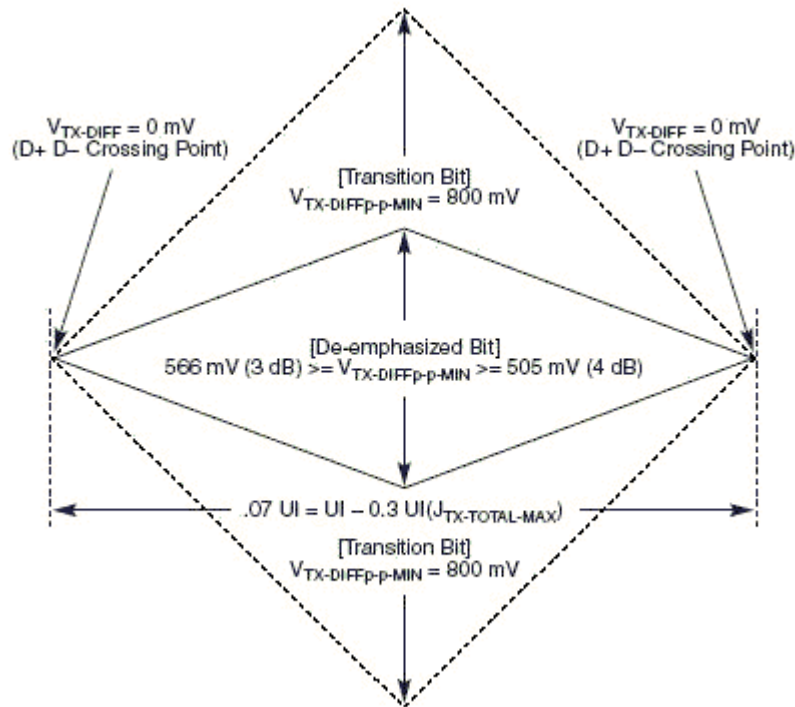
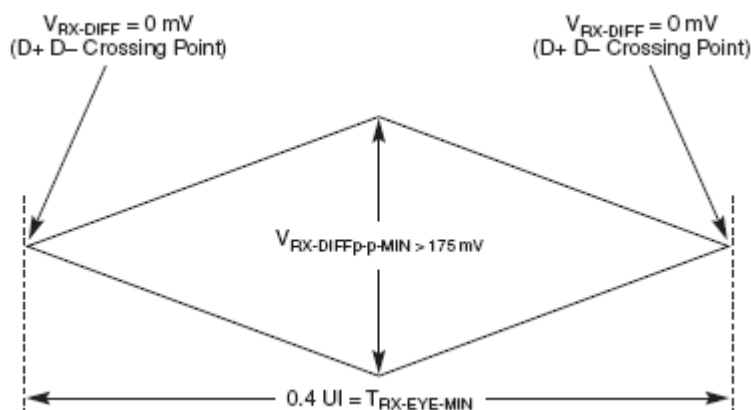
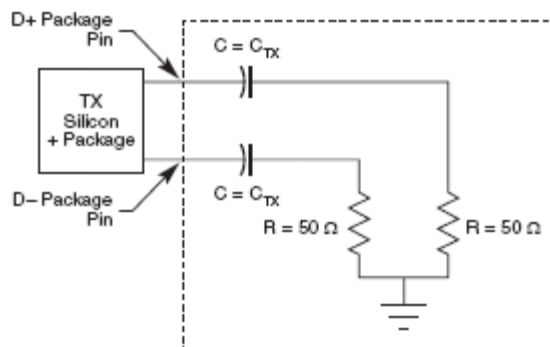

Figure 55. Minimum Transmitter Timing and Voltage Output Compliance Specifications
Figure 56. Minimum Receiver Eye Timing and Voltage Compliance Specification
Figure 57. Compliance Test/Measurement Load
2. Specified at the measurement point into a timing and voltage compliance test load as shown in Figure 57 and measured over any 250 consecutive TX UIs. (Also refer to the transmitter compliance eye diagram shown in Figure 55.)
4. The Transmitter input impedance shall result in a differential return loss greater than or equal to 12 dB and a common mode return loss greater than or equal to 6 dB over a frequency range of 50 MHz to 1.25 GHz. This input impedance requirement applies to all valid input levels. The reference impedance for return loss measurements is 50 ohms to ground for both the D+ and D- line (that is, as measured by a Vector Network Analyzer with 50 ohm probes—see Figure 57). Note that the series capacitors C_{TX} is optional for the return loss measurement.
5. Measured between 20-80% at transmitter package pins into a test load as shown in Figure 57 for both $V_{\text{TX-D+}}$ and $V_{\text{TX-D-}}$.
The TX eye diagram in Figure 55 is specified using the passive compliance/test measurement load (see Figure 57) in place of any real PCI Express interconnect + RX component.
2. Specified at the measurement point and measured over any 250 consecutive UIs. The test load in Figure 57 should be used as the RX device when taking measurements (also refer to the Receiver compliance eye diagram shown in Figure 56). If the clocks to the RX and TX are not derived from the same reference clock, the TX UI recovered from 3500 consecutive UI must be used as a reference for the eye diagram.
4. The Receiver input impedance shall result in a differential return loss greater than or equal to 15 dB with the D+ line biased to 300 mV and the D- line biased to -300 mV and a common mode return loss greater than or equal to 6 dB (no bias required) over a frequency range of 50 MHz to 1.25 GHz. This input impedance requirement applies to all valid input levels. The reference impedance for return loss measurements for is 50 ohms to ground for both the D+ and D- line (that is, as measured by a Vector Network Analyzer with 50 ohm probes - see Figure 57). Note: that the series capacitors C_{TX} is optional for the return loss measurement.
The RX eye diagram in Figure 56 is specified using the passive compliance/test measurement load (see Figure 57) in place of any real PCI Express RX component.
Note: In general, the minimum Receiver eye diagram measured with the compliance/test measurement load (see Figure 57) is larger than the minimum Receiver eye diagram measured over a range of systems at the input Receiver of any real PCI Express component. The degraded eye diagram at the input Receiver is due to traces internal to the package as well as silicon parasitic characteristics which cause the real PCI Express component to vary in impedance from the compliance/test measurement load. The input Receiver eye diagram is implementation specific and is not specified. RX component designer should provide additional margin to adequately compensate for the degraded minimum Receiver eye diagram (shown in Figure 56) expected at the input Receiver based on some adequate combination of system simulations and the Return Loss measured looking into the RX package and silicon. The RX eye diagram must be aligned in time using the jitter median to locate the center of the eye diagram.
The reference impedance for return loss measurements is 50. to ground for both the D+ and D- line (that is, as measured by a Vector Network Analyzer with 50. probes—see Figure 57). Note that the series capacitors, CTX, are optional for the return loss measurement.
The AC timing and voltage parameters must be verified at the measurement point, as specified within 0.2 inches of the package pins, into a test/measurement load shown in Figure 57.